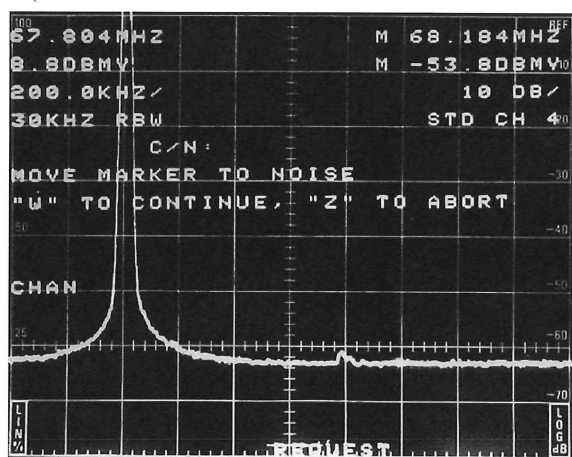

Figure 24. C/N at the output of a set-top converter.
5. Press [0] to RUN CARRIER/NOISE INTERACTIVE. The 2714/2715 measures the visual carrier level and pauses with the message MOVE MARKER TO NOISE displayed. Remove the modulation at the headend. If using a modulator, replace its video input with a terminator. If using a processor, enable the replacement carrier. Move the marker to a position above the visual carrier frequency that is representative of the noise level. Normally, the noise level will be constant across the trace. If beats or other coherent disturbances are present, be careful to avoid positioning the marker on them. Figure 24 is a typical display.